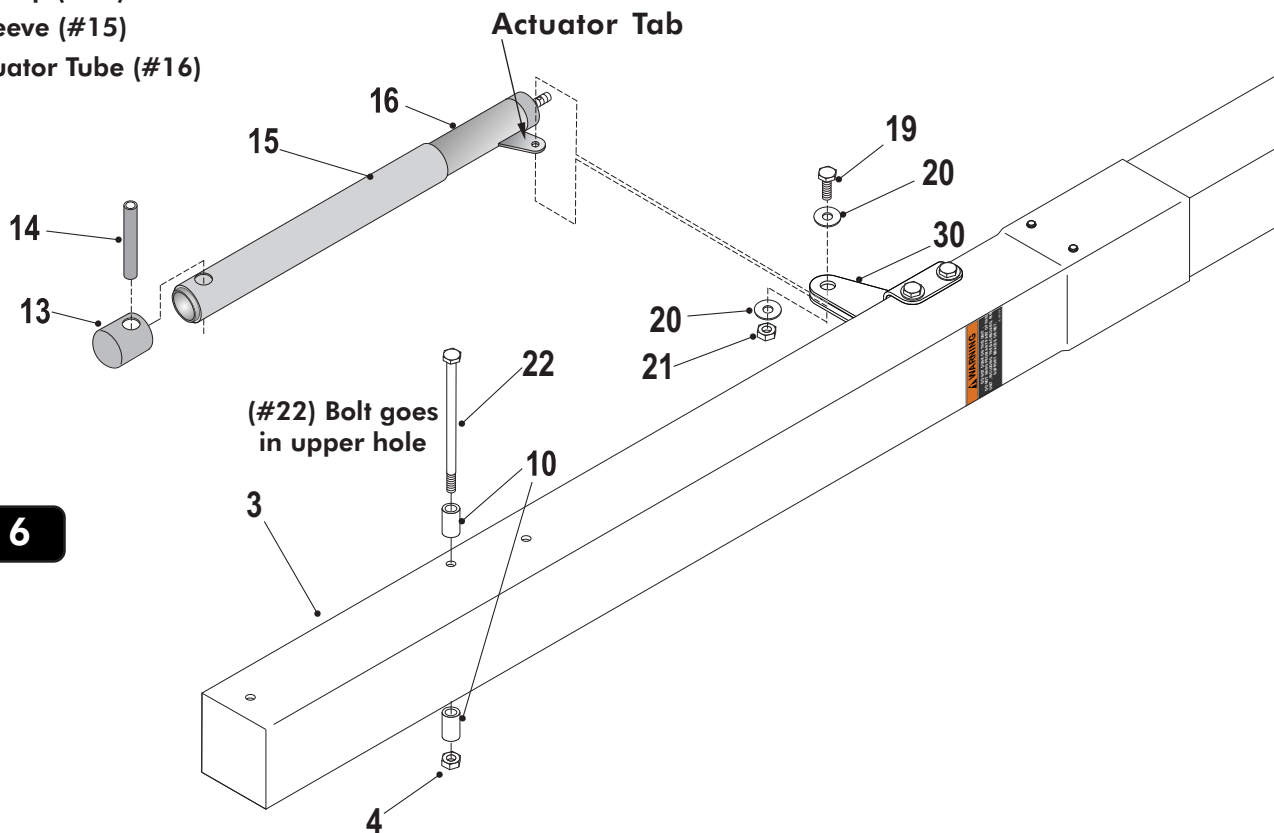

Figure 6
5. If not already pre-assembled, slide Plastic Actuator Sleeve (#15) over Steel Actuator (#16) and place Actuator Cap (#13) on top. Align holes in all 3 parts and slide Pivot Tube (#14) through holes in Actuator Cap (#13), Plastic Actuator Sleeve (#15) and Steel Actuator Tube (#16) until equal amounts stick out through both sides of actuator. See **Figure 6**.
6. While still on the two padded saw horses, Slide tab on Actuator (#16) between Post Ears (#30) and secure using one bolt (#19), two washers (#20) and one lock nut (#21). Tighten Lock Nut (#21) snug but **do not over tighten**. See **Figure 6**.
7. Secure two stop spacers (#10) to pole, as shown in **Figure 6**, using one hex bolt (#22) and one lock nut (#4). Tighten Lock Nut (#4) but **do not over tighten**.